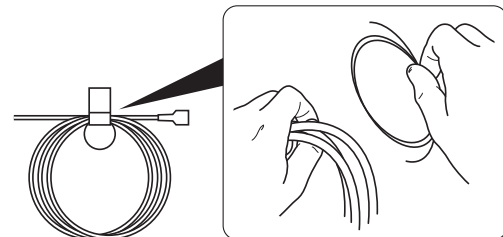

Figure 92 – Disposable Cleaning Wire Removal
- Remove the paper band securing the handpiece tubing connector bundle and the disposable cleaning wire. Keep the disposable cleaning wire for use during the procedure (Figure 92).